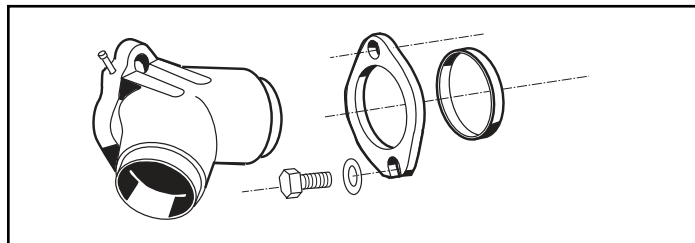

Figure 3
- Install intake manifold using provided mounting flanges and O-ring seals. Be sure O-rings and flanges are assembled in correct sequence. **See Figure 3.**